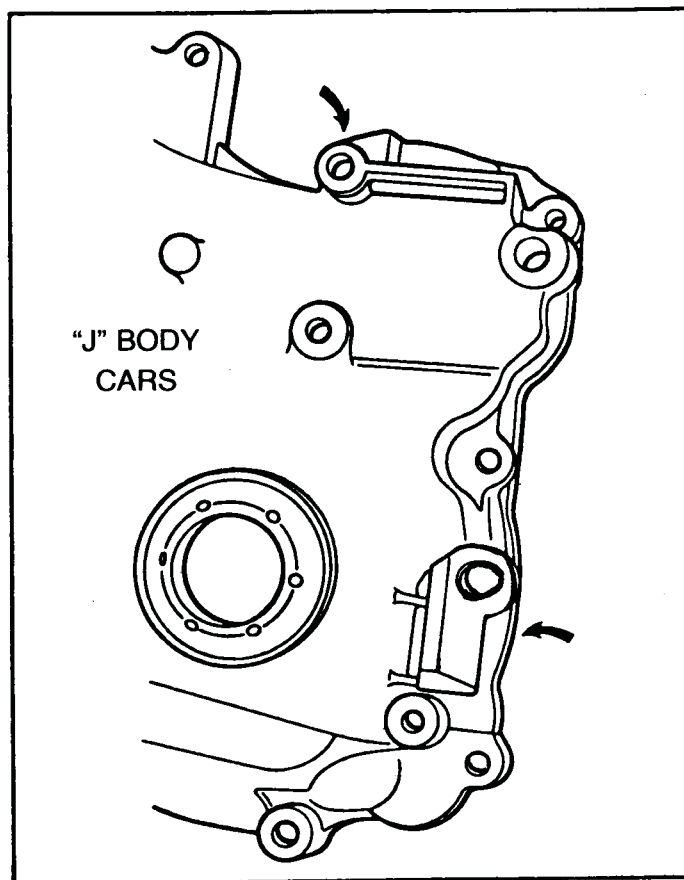

Figure 51
- 2) Part number 8653969 has only "One" stand on top of the case cover that is drilled and tapped, and the mount area on the side of the case cover is machined off at 45 degrees to the axle centerline. Refer to Figure 51. This case cover fits "J" body cars.